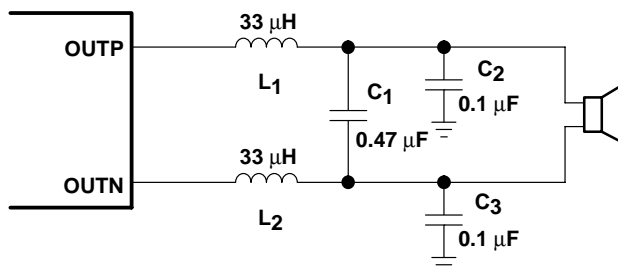
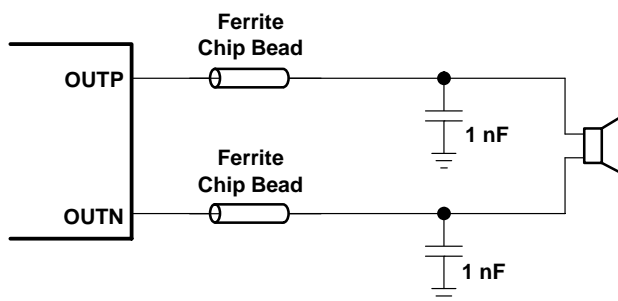

Figure 24. Typical LC Output Filter, Cutoff Frequency of 41 kHz, Speaker Impedance = 8 Ω
Figure 25. Typical Ferrite Chip Bead Filter (Chip bead example: Fair-Rite 2512067007Y3)
- Output filter — The ferrite EMI filter (Figure 25, page 18) should be placed as close to the output terminals as possible for the best EMI performance. The LC filter (Figure 24, page 18) should be placed close to the outputs. The capacitors used in both the ferrite and LC filters should be grounded to PGND.